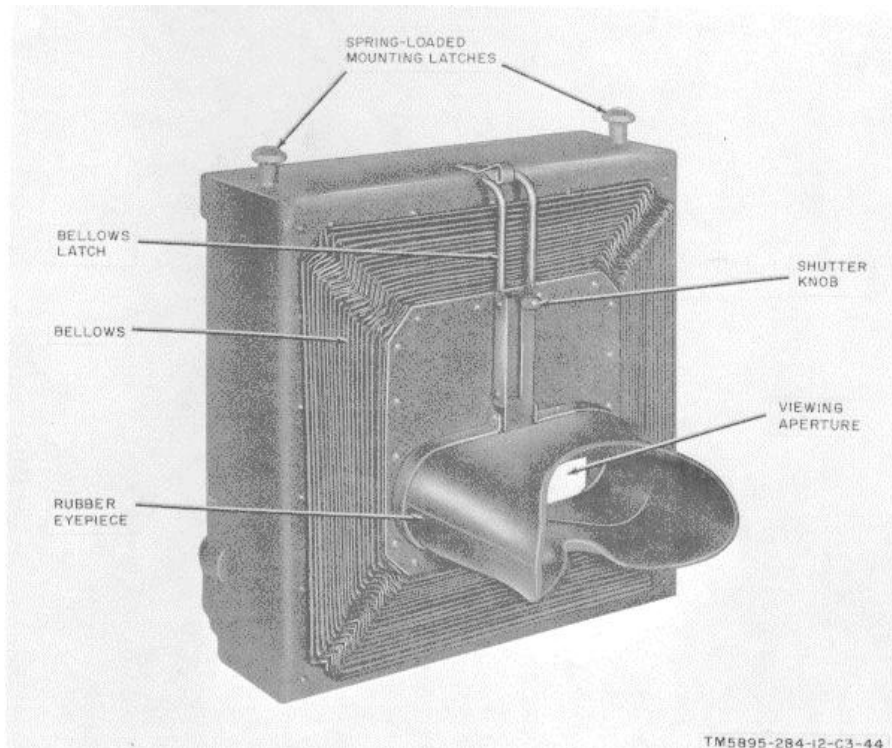
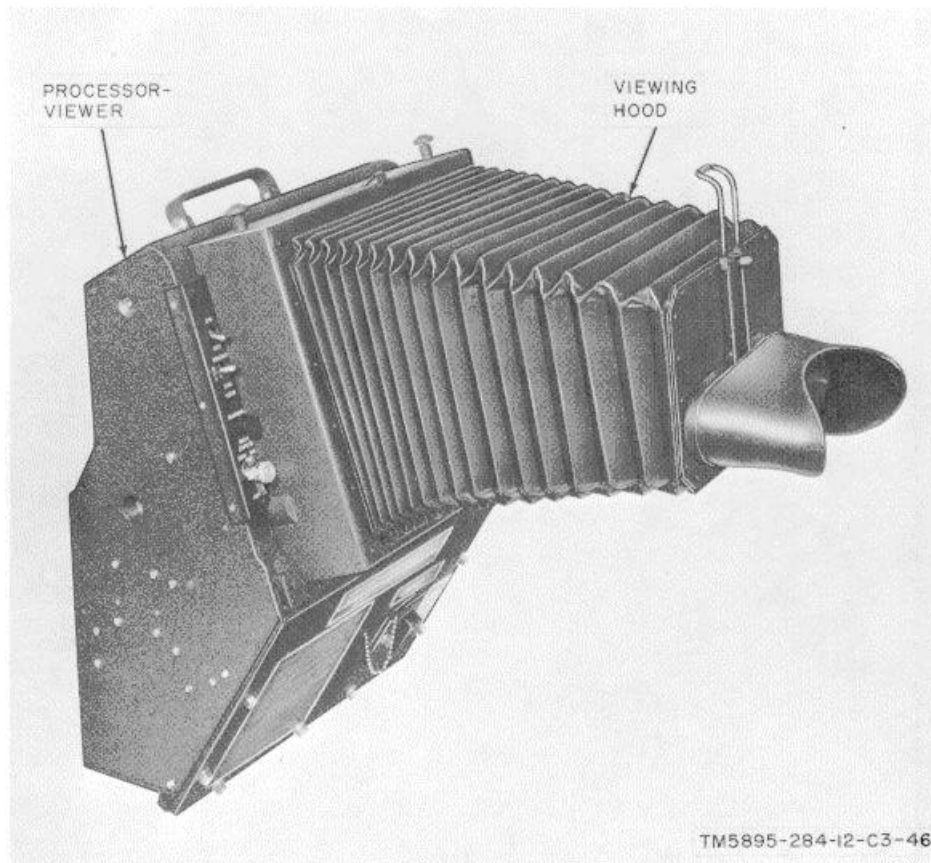

Figure 4-4. Processor-viewer, viewing hood, front view.
Figure 4-6. Processor-viewer, viewing hood, mounted and extended.
4-7. Description of Viewing Hood for Recorder-Processor-Viewer, Radar Mapping RO-166(*)/UP (fig. 4-4 and 4-5)
- b. Lift, and hold extended, the spring-loaded mounting latches (fig. 4-4 and 4-5); press the top of the viewing hood against the processor-viewer, and then release the spring-loaded mounting latches. Figure 4-6 shows the viewing hood mounted and the bellows extended.